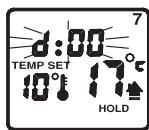

Figure 17
- Press and hold the button for 3 seconds, the LCD display will appear the "d:00" icon. (Figure 17)